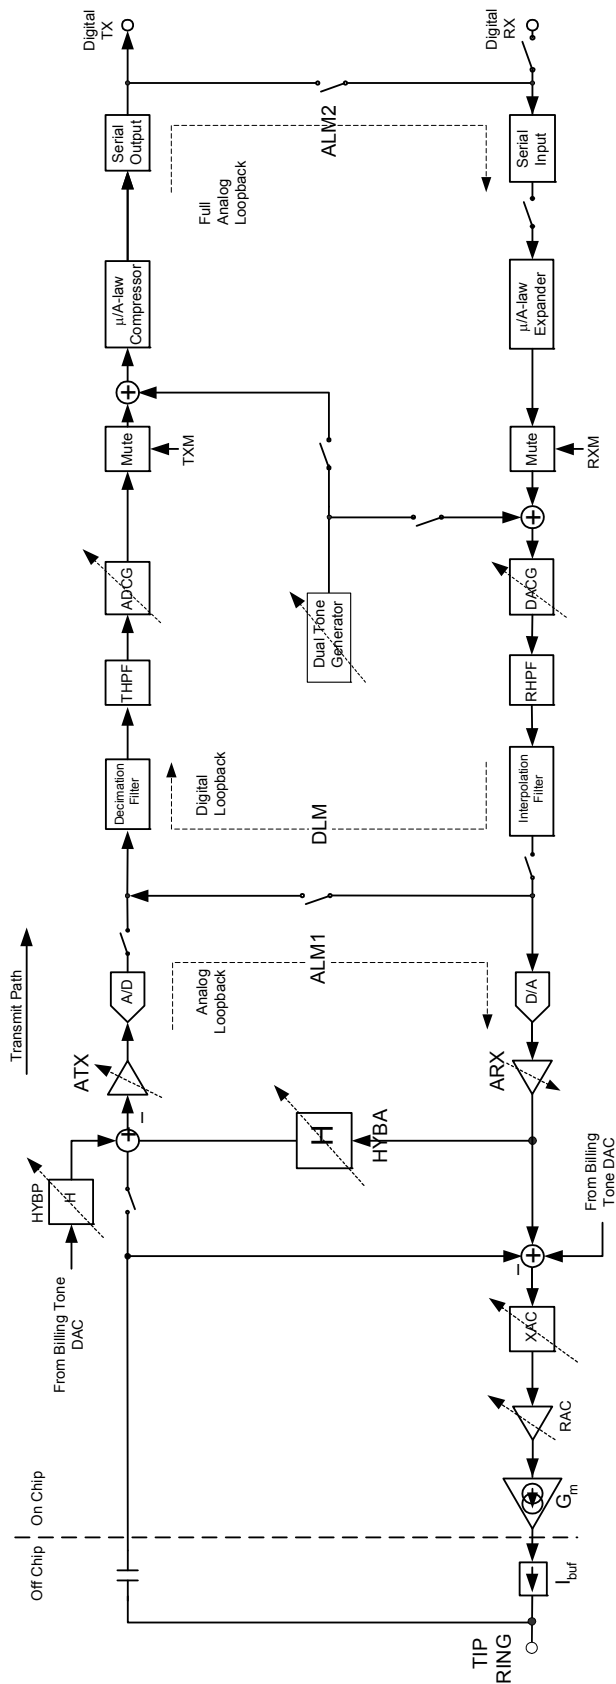

Figure 22. AC Signal Path Block Diagram
Unlike traditional SLICs, the codec function is integrated into the ProSLIC. The 16-bit codec offers programmable gain/attenuation blocks and several loop-back modes. The signal path block diagram is shown in Figure 22.
The block diagram for the voice-band signal processing paths are shown in Figure 22. Both the receive and the transmit paths employ the optimal combination of analog and digital signal processing to provide the maximum performance while, at the same time, offering sufficient flexibility to allow users to optimize for their particular application of the ProSLIC. All programmable signal-processing blocks are symbolically indicated in Figure 22 by a dashed arrow across them. The two-wire (TIP/RING) voice-band interface to the ProSLIC is implemented using a small number of external components. The receive path interface consists of a unity-gain current buffer, I_{BUF}, while the transmit path interface is simply an ac coupling capacitor. Signal paths, although implemented differentially, are shown as single-ended for simplicity.
The ProSLIC provides programmable transhybrid balance with gain block H. (See Figure 22.) In the ideal case where the synthesized SLIC impedance matches exactly the subscriber loop impedance, the transhybrid balance should be set to subtract a −6 dB level from the transmit path signal. The transhybrid balance gain can be adjusted from −2.77 dB to +4.08 dB around the ideal setting of −6 dB by programming the HYBA[2:0] bits of the Hybrid Control register (direct Register 11). Note that adjusting any of the analog or digital gain blocks will not require any modification of the transhybrid balance gain block, as the transhybrid gain is subtracted from the transmit path signal prior to any gain adjustment stages. The transhybrid balance can also be disabled, if desired, using the appropriate register setting.
- The full analog loopback (ALM2) tests almost all the circuitry of both the transmit and receive paths. The compressed 8-bit word transmit data stream is fed back serially to the input of the receive path expander. (See Figure 22.) The signal path starts with the analog signal at the input of the transmit path and ends with an analog signal at the output of
- An additional analog loopback (ALM1) takes the digital stream at the output of the A/D converter and feeds it back to the D/A converter. (See Figure 22.) The signal path starts with the analog signal at the input of the transmit path and ends with an analog signal at the output of the receive path. This loopback option allows the testing of the analog signal processing circuitry of the Si3215 completely independently of any activity in the DSP.
- The full digital loopback tests almost all the circuitry of both the transmit and receive paths. The analog signal at the output of the receive path is fed back to the input of the transmit path by way of the hybrid filter path. (See Figure 22.) The signal path starts with 8-bit PCM data input to the receive path and ends with 8-bit PCM data at the output of the transmit path. The user can bypass the companding process and interface directly to the 16-bit data.
Real and complex two-wire impedances are realized by internal feedback of a programmable amplifier (RAC) a switched capacitor network (XAC) and a transconductance amplifier (G_m). (See Figure 22.) RAC creates the real portion and XAC creates the imaginary portion of G_m 's input. G_m then creates a current that models the desired impedance value to the subscriber loop. The differential ac current is fed to the subscriber loop via the ITIPP and IRINGP pins through an off-chip current buffer (I_{BUF}), which is implemented using transistor Q1 and Q2 (see Figure on page 20). G_m is referenced to an off-chip resistor (R_{15}).